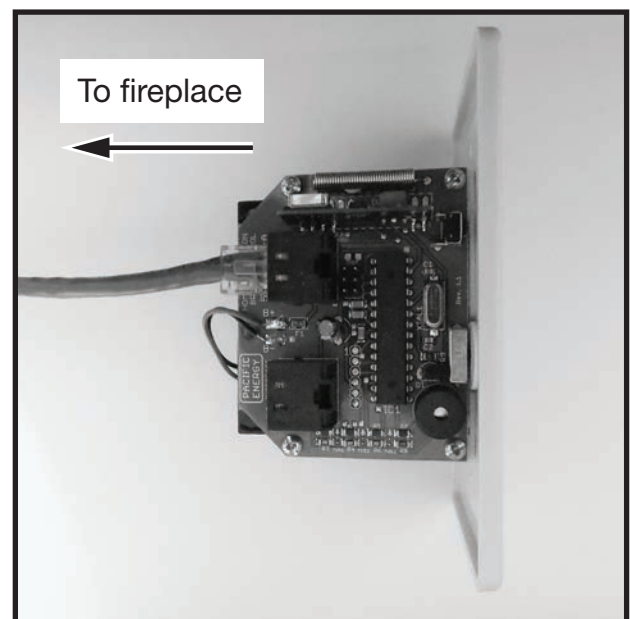

Figure 28: Wall switch - interface side.
7. Route the wall switch control cable as required to the wall switch (Figure 28).